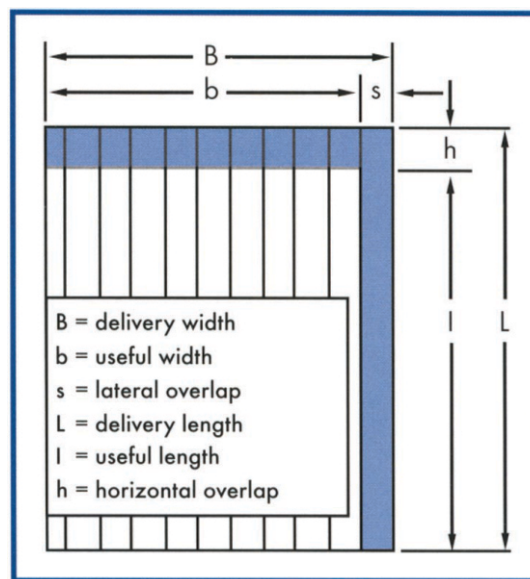
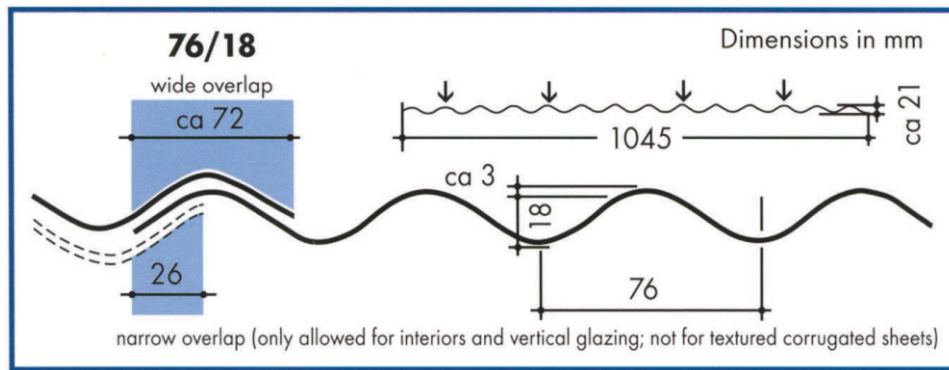

Fig. 1: Overlap of ACRYLITE® Wave Profile acrylic sheet.
Fig. 2: Cross Section of ACRYLITE® Wave Profile acrylic sheet. The downward pointing arrow (↓) depicts the fastening points at the crest of corrugation.
For greater glazed heights or roof slopes, refer to the overlap recommendations (Fig. 1 and Fig. 2 above and Fig. 4 below) and details in this guide. The following will illustrate four (4) sheet overlap connection details.